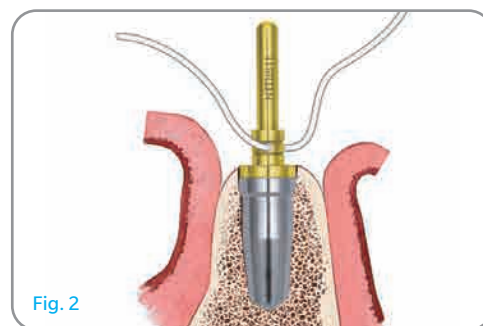

Fig. 2
Step 2: Thread a suture through the NTDI hole to prevent accidental swallowing. Verify the NTDI platform position in reference to the crest of the bone. This also verifies the depth of the osteotomy that has been created. The NTDI platform should be at the level you desire the implant platform to attain. If the NTDI platform is too high versus the desired position, then re-drilling to the appropriate depth is required. If the NTDI platform is too deep versus the desired position, this indicates some degree of osteotomy over preparation has taken place. To ensure proper engagement of the implant, it must be seated to the depth demonstrated by the NTDI. A longer implant can be considered. The clinician may consider verifying the position of the NTDI with a radiograph [Fig. 2].